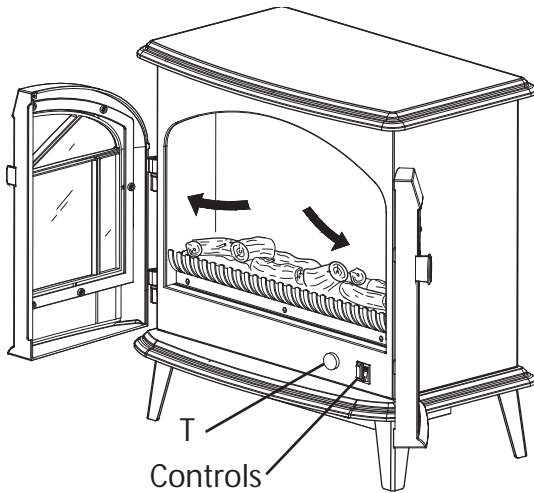

Fig. 2
The controls are located behind the doors (see Fig. 2).
## Thermostat (T) - see Fig. 2